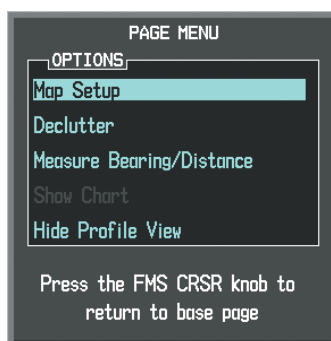

Figure 6-116 Navigation Map Page Menu
- 2) With 'Map Setup' selected (Figure 6-116), press the **ENT** Key.
The following options are available (Figure 6-116):